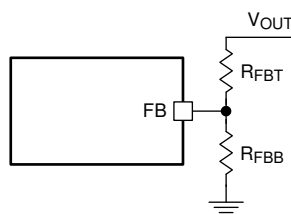

**Figure 7-1. SW Node and Inductor Current Waveforms in Continuous Conduction Mode (CCM)**
The following operating description of the LMR23625 refers to Section 7.2 and to the waveforms in Figure 7-1. The LMR23625 device is a step-down synchronous buck regulator with integrated high-side (HS) and low-side (LS) switches (synchronous rectifier). The device supplies a regulated output voltage by turning on the HS and